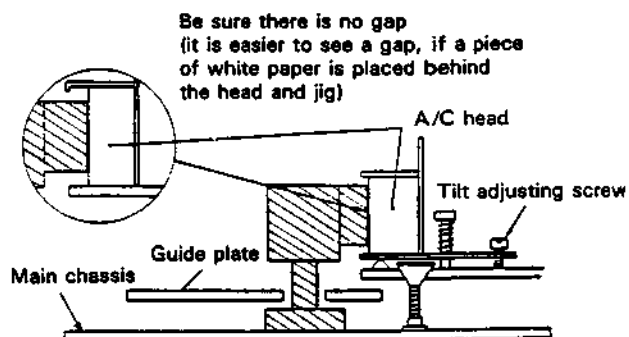

Figure 1-19.
2. Loosen the tilt adjusting screw ② by using a philips screwdriver.
3. Remove the azimuth adjusting screw ⑤ (3P+ 8S) with a philips screwdriver.
4. Remove the A/C head screw ④ with a philips screwdriver, paying attention to the spring ⑦ between the A/C head screw ④ and A/C head assembly ①.
6. The A/C head assembly ① is attached so that the A/C head arm and A/C head plate stand approximately parallel to one another.
7. Set the A/C head tilt according to Fig. 1-19.
2. Set the tilt angle of the audio/control head as shown in Fig. 1-19.